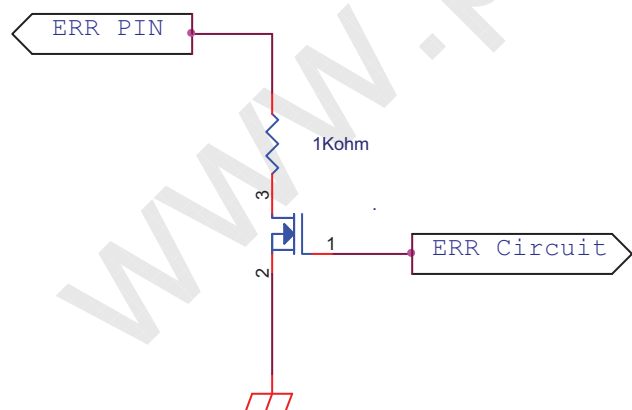

Fig. 2
Note (4) When converter protective function is triggered, ERR will output open collector status.(Fig.2)